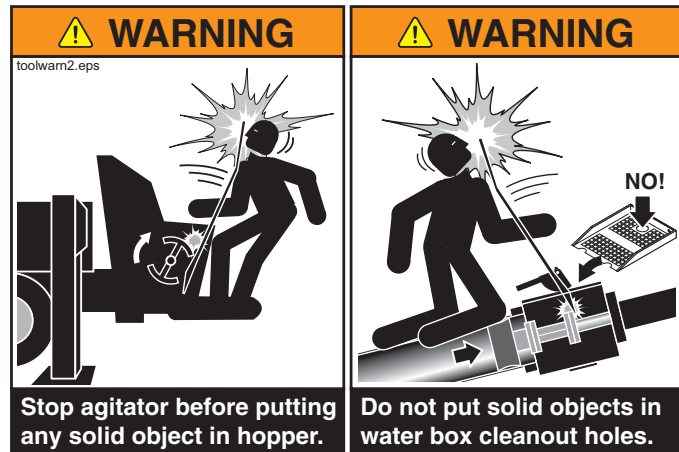

Figure 28
8.4 **⚠ WARNING** **Never put a bar or other solid tool into the hopper, water box, or other working system while the hydraulics are operational (Figure 28).**